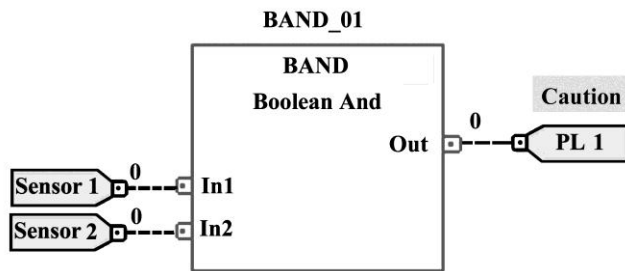

Figure 5-7 Program for question 17.
17. The PLC program of Figure 5-7 is a ____ type. 17. _____